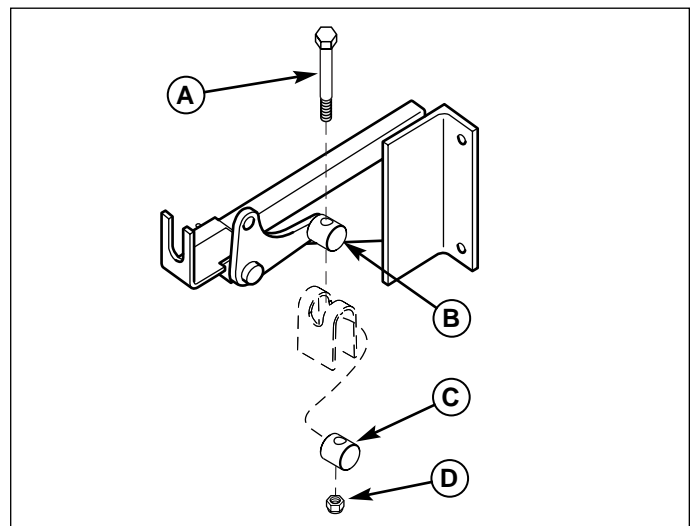

Figure 33. Deck Hanger Assembly
4. Using a 3/4" wrench and socket, adjust the front and rear hanger assemblies (Figure 33) until the measurements are achieved, making sure the deck lift pedal arm is still resting against the quick pin.